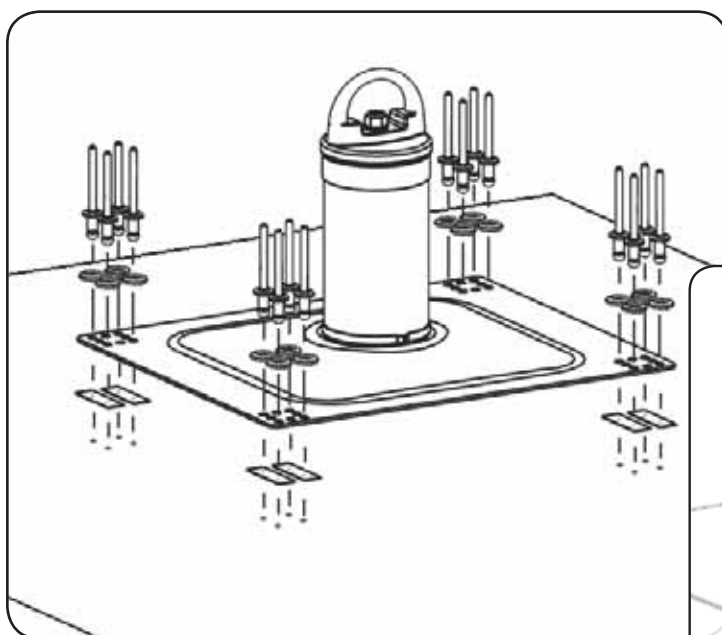

Fig. 7a
1. Position the base on metal decking as shown in Fig. 7a.